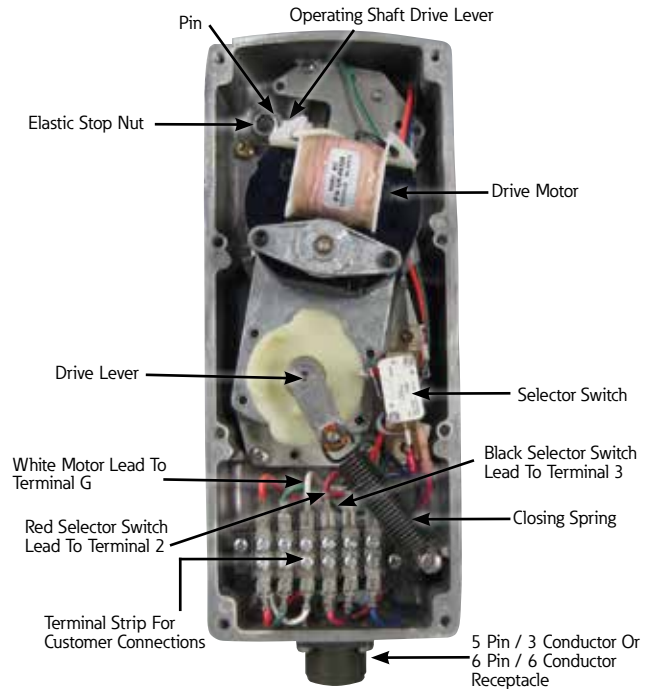
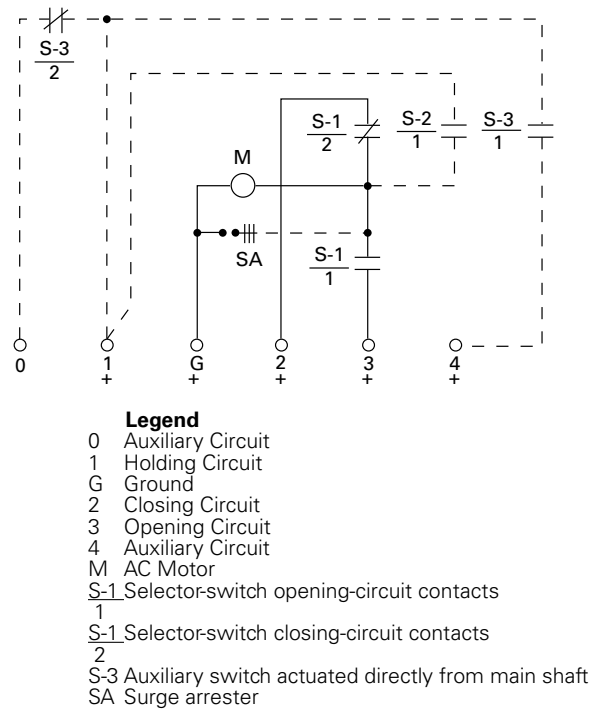

Figure 12. Standard actuator mechanism with auxiliary switch option.
Figure 13. Wiring diagram with accessory connections indicated by broken lines.
The actuator mechanism requires little attention. When the switch is removed from service for its periodic maintenance inspection, check the condition of the selector switch contacts, and holding switch contacts if so equipped. Also check the condition of the wiring, motor and cams. Components of a standard actuator mechanism are shown in Figure 12. Figure 13 shows the wiring diagram of the switch actuator with the various accessory connections shown in dotted lines.
1. Heat the solder joint at the common terminal of the selector switch to disconnect black lead (Figure 12). Use a gun rated no higher than 100 watts and use only 50-50 or 40-60 rosin core solder for repair work.
9. Attach wire leads to terminal strip, as shown in Figure 12.